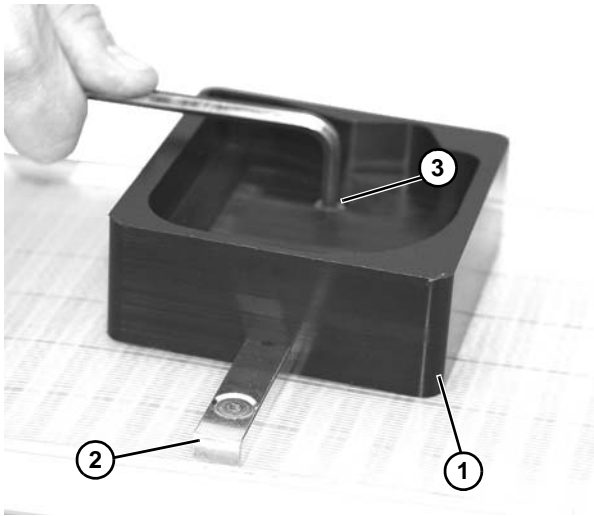

Figure 13
5. Install pallet (Figure 13, item 1) onto belt fixture (Figure 13, item 2). Attach with M6 screw(s) (Figure 13, item 3). Tighten to 60 in-lb (7 Nm).